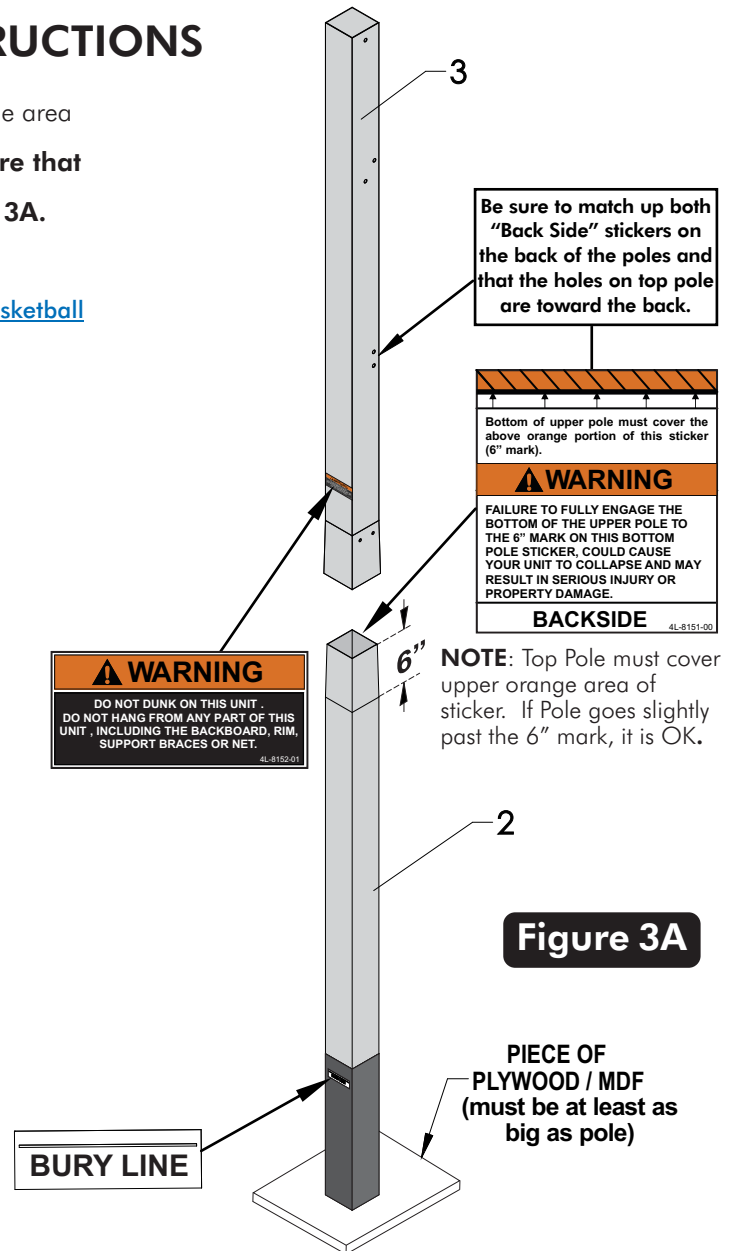

Figure 3A
- Before putting any of the poles tubes together, make sure that the orange area of the Warning Sticker on Pole (#2) is 6 inches from the top end. **Be sure that the "Back Side" stickers are at the back of the pole.** See Figure 3A.
- Align the upper pole (#3) with the bottom pole (#2) as shown in Figure 3A and slide them together. While maintaining control of the pole assembly stand poles up **STRAIGHT** on a piece of MDF board or Plywood, **lift poles up by bottom pole** below the 6" mark shown on sticker and slam down the bottom pole as many times as needed on the MDF board or Plywood **until the bottom of the upper pole reaches the 6" mark** (on Sticker) on the bottom pole. Lift the pole 10-12 inches off the ground when slamming the poles together. See Figure 3A & 3B.